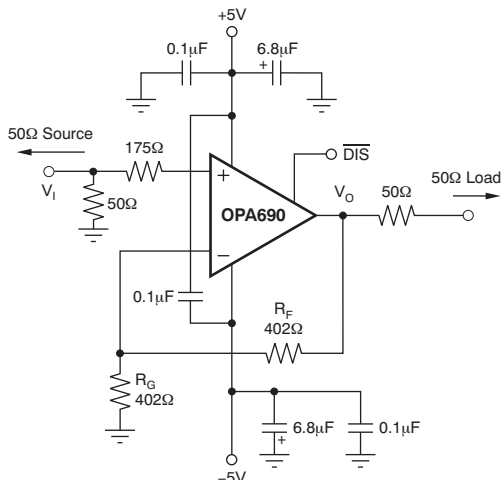
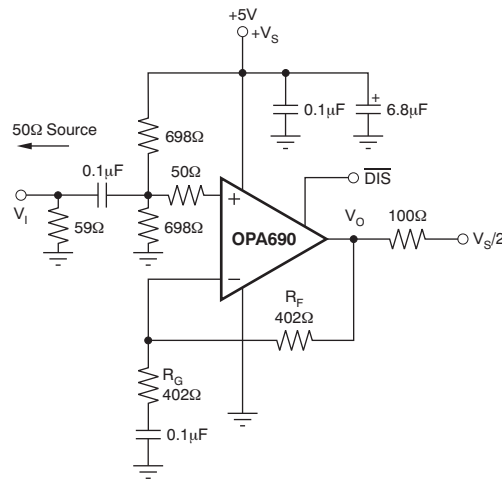
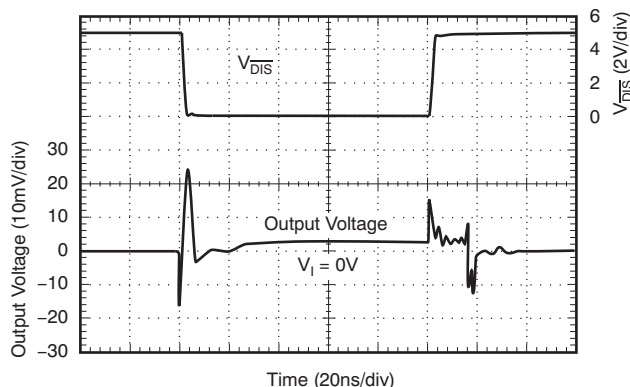

Figure 36. DC-Coupled, G = 2, Bipolar-Supply Specification and Test Circuit
Figure 37. AC-Coupled, G = 2, Single-Supply Specification and Test Circuit
Figure 44. Disable or Enable Glitch
$T_A = 25^\circ\text{C}$, $G = 2$, $R_F = 402\ \Omega$, and $R_L = 100\ \Omega$; see Figure 36 for AC performance only (unless otherwise noted)
$T_A = 25^\circ\text{C}$, $G = 2$, $R_F = 402\ \Omega$, and $R_L = 100\ \Omega$; see Figure 37 for AC performance only (unless otherwise noted)
Figure 36 shows the DC-coupled, gain of 2, dual power supply circuit configuration used as the basis of the ± 5 V and *Typical Characteristics: $V_S = \pm 5$ V*. For test purposes, the input impedance is set to 50 Ω with a resistor to ground and the output impedance is set to 50 Ω with a series output resistor. Voltage swings reported in the specifications are taken directly at the input and output pins, while output powers (dBm) are at the matched 50- Ω load. For the circuit of Figure 36, the total effective load is 100 $\Omega \parallel 804 \Omega$. The disable control line is typically left open to ensure normal amplifier operation. Two optional components are included in Figure 36. An additional resistor (175 Ω) is included in series with the noninverting input. Combined with the 25- Ω DC source resistance looking back towards the signal generator, this gives an input bias current cancelling resistance that matches the 200- Ω source resistance seen at the inverting input (see *DC Accuracy and Offset Control*). In addition to the usual power-supply decoupling capacitors to ground, a 0.1- μ F capacitor is included between the two power-supply pins. In practical printed-circuit board (PCB) layouts, this optional-added capacitor typically improves the 2nd-harmonic distortion performance by 3 dB to 6 dB.
Figure 37 shows the AC-coupled, gain of 2, single-supply circuit configuration which is the basis of the 5 V and *Typical Characteristics: 5 V*. Though not a rail-to-rail design, the OPA690 requires minimal input and output voltage headroom compared to other very wideband voltage-feedback op amps. It delivers a 3-V_{PP} output swing on a single 5-V supply with > 150-MHz bandwidth. The key requirement of broadband single-supply operation is to maintain input and output signal swings within the useable voltage ranges at both the input and the output. The circuit of Figure 37 establishes an input midpoint bias using a simple resistive divider from the 5-V supply (two 698-Ω resistors). The input signal is then AC-coupled into the midpoint voltage bias. The input voltage can swing to within 1.5 V of either supply pin, giving a 2-V_{PP} input signal range centered between the supply pins. The input impedance matching resistor (59 Ω) used for testing is adjusted to give a 50-Ω input load when the parallel combination of the biasing divider network is included.
Voltage-feedback op amps exhibit decreasing closed-loop bandwidth as the signal gain is increased. In theory, this relationship is described by the gain bandwidth product (GBP) shown in the *Electrical Characteristics: $V_S = \pm 5$ V*. Ideally, dividing GBP by the noninverting signal gain (also called the Noise Gain, or NG) predicts the closed-loop bandwidth. In practice, this only holds true when the phase margin approaches 90°, as it does in high gain configurations. At low gains (increased feedback factors), most amplifiers exhibit a more complex response with lower phase margin. The OPA690 is compensated to give a slightly peaked response in a noninverting gain of 2 (see Figure 36). This results in a typical gain of 2 bandwidth of 220 MHz, far exceeding that predicted by dividing the 300 MHz GBP by 2. Increasing the gain causes the phase margin to approach 90° and the bandwidth to more closely approach the predicted value of (GBP/NG). At a gain of 10, the 30-MHz bandwidth shown in *Electrical Characteristics: $V_S = \pm 5$ V* agrees with that predicted using the simple formula and the typical GBP of 300 MHz.
The frequency response in a gain of 2 may be modified to achieve exceptional flatness simply by increasing the noise gain to 2.5. One way to do this, without affecting the 2 signal gain, is to add an 804- Ω resistor across the two inputs in the circuit of Figure 36. A similar technique may be used to reduce peaking in unity-gain (voltage follower) applications. For example, by using a 402- Ω feedback resistor along with a 402- Ω resistor across the two op amp inputs, the voltage follower response is similar to the gain of 2 response of Figure 37. Reducing the value of the resistor across the op amp inputs further limits the frequency response due to increased noise gain.
Because the OPA690 is a general-purpose, wideband voltage-feedback op amp, all of the familiar op amp application circuits are available to the designer. Inverting operation is one of the more common requirements and offers several performance benefits. Figure 38 shows a typical inverting configuration where the I/O impedances and signal gain from Figure 36 are retained in an inverting circuit configuration.
The second major consideration, touched on in the previous paragraph, is that the signal source impedance becomes part of the noise gain equation and influences the bandwidth. For the example in Figure 38, the R_M value combines in parallel with the external 50- Ω source impedance, yielding an effective driving impedance of $50\ \Omega \parallel 67\ \Omega = 28.6\ \Omega$. This impedance is added in series with R_G for calculating the noise gain (NG). The resultant NG is 2.8 for Figure 38, as opposed to only 2 if R_M could be eliminated as discussed above. Therefore, the bandwidth is slightly lower for the gain of ± 2 circuit of Figure 38 than for the gain of 2 circuit of Figure 36.
The OPA690 provides good distortion performance into a 100-Ω load on ±5-V supplies. Relative to alternative solutions, it provides exceptional performance into lighter loads and/or operating on a single 5-V supply. Generally, until the fundamental signal reaches very high frequency or power levels, the 2nd-harmonic dominates the distortion with a negligible 3rd-harmonic component. Focusing then on the 2nd-harmonic, increasing the load impedance improves distortion directly. Remember that the total load includes the feedback network; in the noninverting configuration (see Figure 36), this is sum of $R_F + R_G$, while in the inverting configuration it is just R_F . Also, providing an additional supply-decoupling capacitor (0.1 μF) between the supply pins (for bipolar operation) improves the 2nd-order distortion slightly (3 dB to 6 dB).
Evaluating these two equations for the OPA690 circuit and component values (see Figure 36) gives a total output spot noise voltage of 12.3 nV/√Hz and a total equivalent input spot noise voltage of 6.1 nV/√Hz. This is including the noise added by the bias current cancellation resistor (175 Ω) on the noninverting input. This total input-referred spot noise voltage is only slightly higher than the 5.5-nV/√Hz specification for the op amp voltage noise alone. This is the case as long as the impedances appearing at each op amp input are limited to the previously recommend maximum value of 300 Ω. Keeping both (R_F || R_G) and the noninverting input source impedance less than 300 Ω satisfies both noise and frequency response flatness considerations. Because the resistor-induced noise is relatively negligible, additional capacitive decoupling across the bias current cancellation resistor (R_B) for the inverting op amp configuration of Figure 38 is not required.
The balanced input stage of a wideband voltage-feedback op amp allows good output DC accuracy in a wide variety of applications. The power-supply current trim for the OPA690 gives even tighter control than comparable amplifiers. Although the high-speed input stage does require relatively high input bias current (typically ±8 μA at each input terminal), the close matching between them may be used to reduce the output DC error caused by this current. The total output offset voltage may be considerably reduced by matching the DC source resistances appearing at the two inputs. This reduces the output dc error due to the input bias currents to the offset current times the feedback resistor. Evaluating the configuration of Figure 36, and using worst-case 25°C input offset voltage and current specifications, gives a worst-case output offset voltage equal to:
One key parameter in disable operation is the output glitch when switching in and out of the disabled mode. Figure 44 shows these glitches for the circuit of Figure 36 with the input signal at 0 V. The glitch waveform at the output pin is plotted along with the $\overline{DIS}$ pin voltage.
The transition edge rate (dV/dt) of the $\overline{DIS}$ control line influences this glitch. For the plot of Figure 44, the edge rate was reduced until no further reduction in glitch amplitude was observed. This approximately 1-V/ns maximum slew rate may be achieved by adding a simple RC filter into the $\overline{DIS}$ pin from a higher speed logic line. If extremely fast transition logic is used, a 1-k Ω series resistor between the logic gate and the $\overline{DIS}$ input pin provides adequate bandlimiting using just the parasitic input capacitance on the $\overline{DIS}$ pin while still ensuring adequate logic level swing.
A good rule of thumb is to target the parallel combination of R_F and R_G (see Figure 36) to be less than approximately 300 Ω. The combined impedance $R_F \parallel R_G$ interacts with the inverting input capacitance, placing an additional pole in the feedback network and thus, a zero in the forward response. Assuming a 2-pF total parasitic on the inverting node, holding $R_F \parallel R_G < 300$ Ω keeps this pole above 250 MHz. By itself, this constraint implies that the feedback resistor R_F can increase to several kΩ at high gains. This is acceptable as long as the pole formed by R_F and any parasitic capacitance appearing in parallel is kept out of the frequency range of interest.
As a worst-case example, compute the maximum T_J using an OPA690-DBV (6-pin SOT-23 package) in the circuit of Figure 36 operating at the maximum specified ambient temperature of 85°C and driving a grounded 20-Ω load.
The *Single-Supply ADC Driver* shows one possible (inverting) interface. Figure 45 shows the test circuit of Figure 37 modified for a capacitive (ADC) load and with an optional output pulldown resistor (R_B).